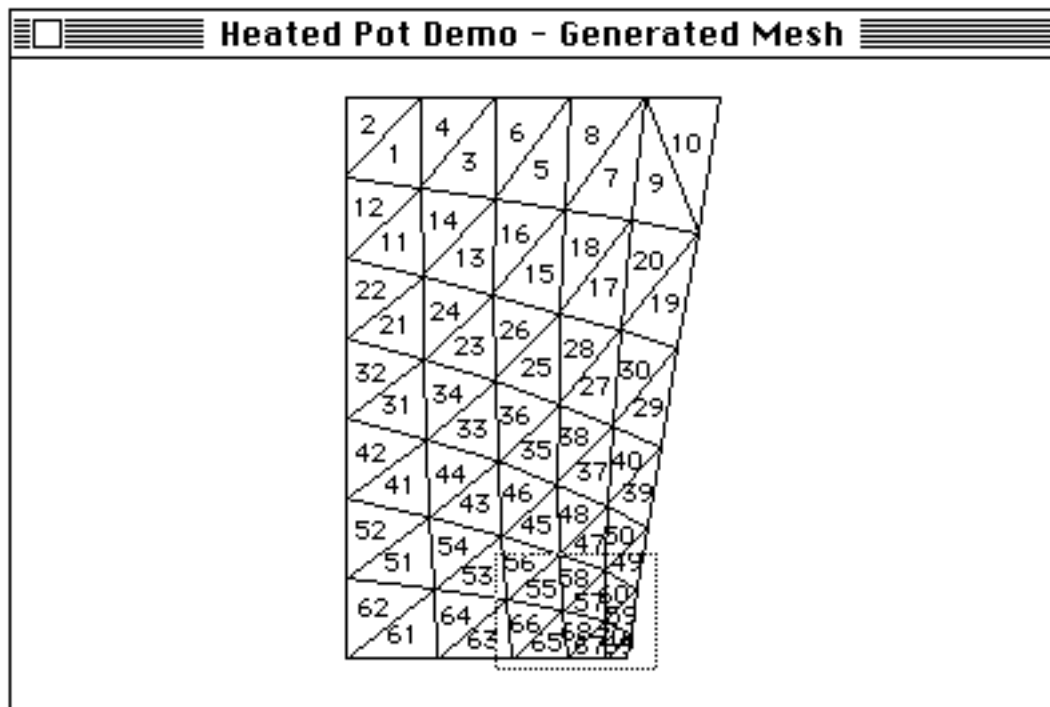
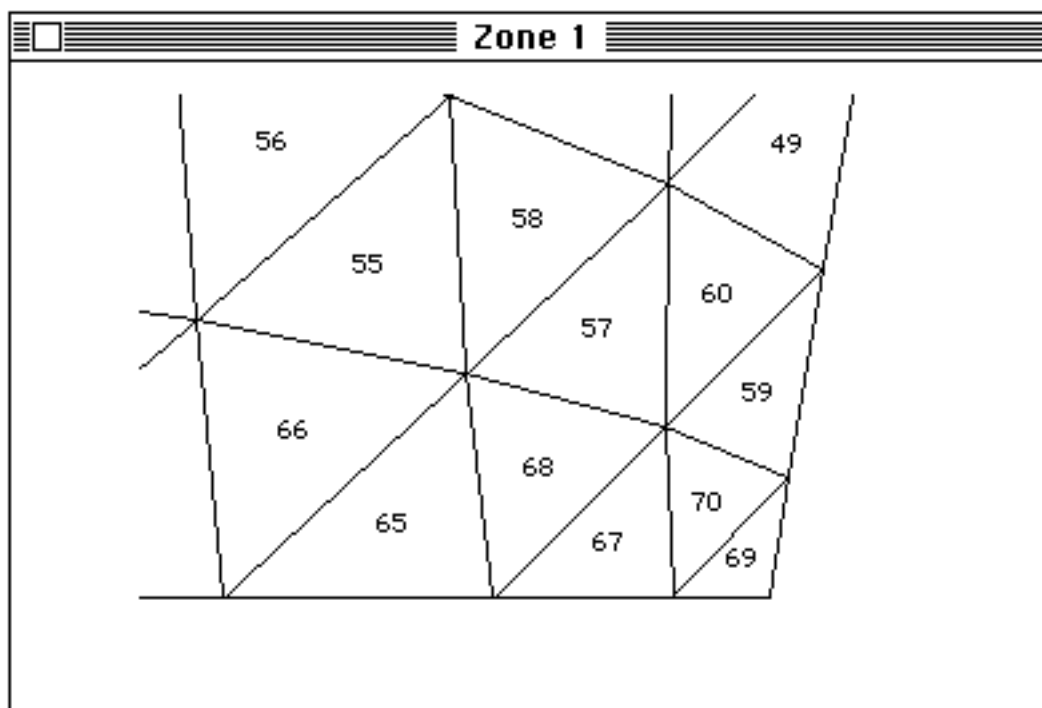

Fig 3.29 Define a zoom rectangle
Fig 3.30 Enlarged view
- Identify the area to be enlarged by dragging a rectangle with the mouse (Fig 3.29).
- Option-click (i.e., press and hold the option key and click) in the rectangle (Fig 3.29) to redraw the area as large as the screen size permits (Fig 3.30).